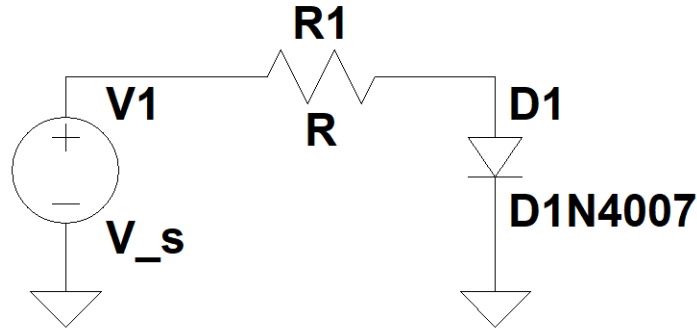

Figure 7 Forward Biased Diode Circuit
1. Connect the Circuit as shown in Figure 7.